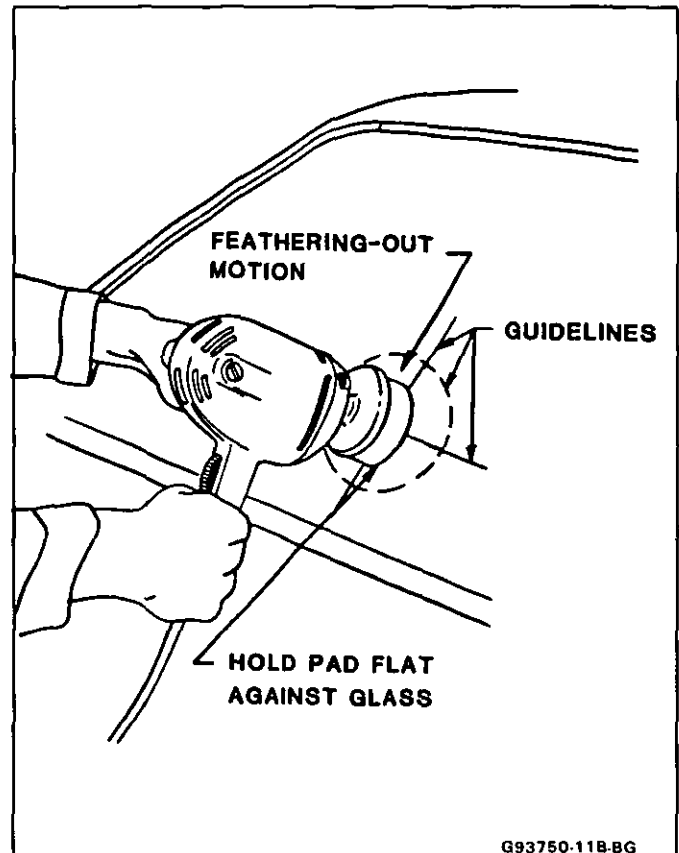

Fig. 1-Removing Minor Glass Scratches
3. Draw a circle around the scratches on the opposite side of glass with a wax marking pencil or crayon. Draw other lines directly behind scratches to serve as guides in locating scratch during polishing (Fig. 1).
6. Using moderate, but steady, pressure, hold pad flat against scratched area of glass, and with a feathering-out motion, polish affected area as shown in Figure 1. Avoid heavy pressure. It does not speed up operation and may cause overheating of glass.